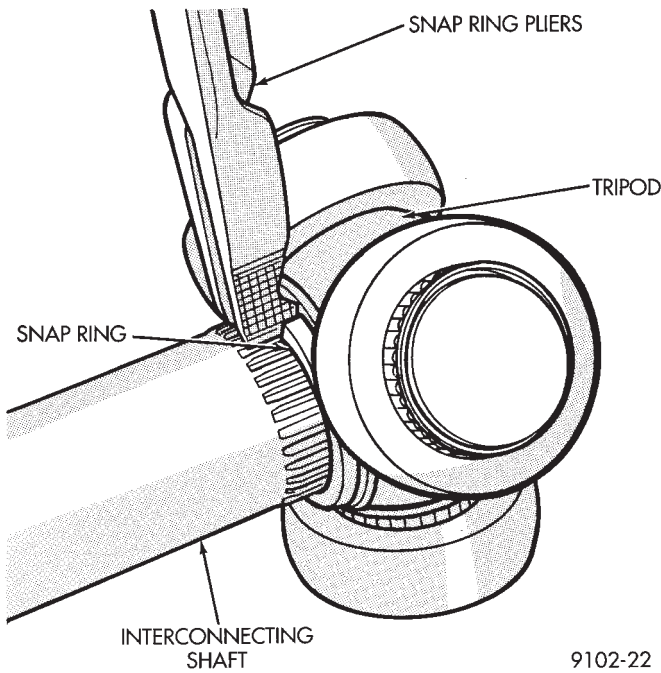

Fig. 5 Removing Stop Ring (G.K.N.)
(1) Expand the stop ring behind the tripod and slide it back along the shaft (Fig. 5).